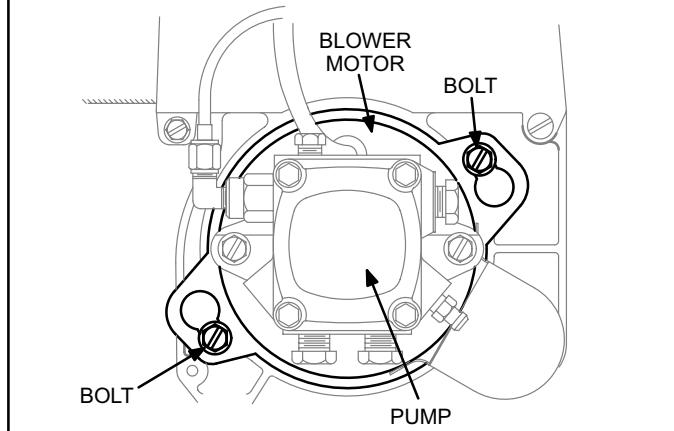

FIGURE 25
- 3 - Loosen two bolts securing motor to blower housing. Key hole slots are provided for easy removal. See figure 25.